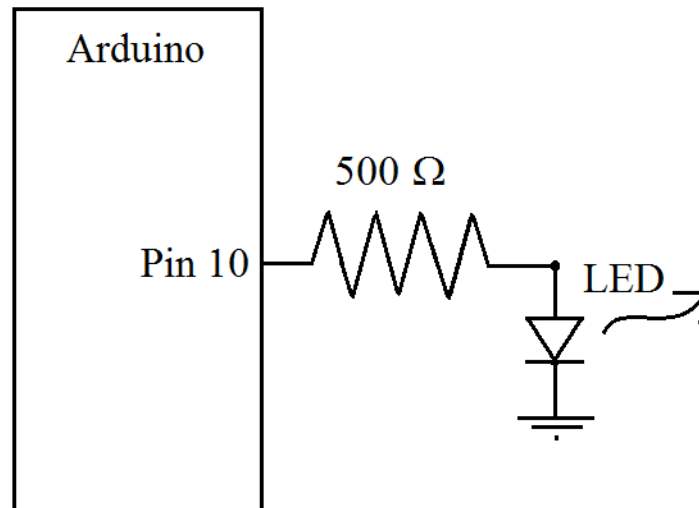

Figure 10-2. Circuit for LED Output.
- 4) Replace the RC circuit with the LED circuit shown in Figure 10-2. Then set the frequency to 0.5 Hz (that is one half of a Hertz). Then demonstrate it to a lab instructor.